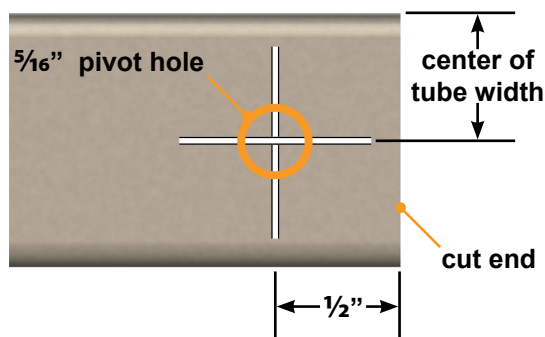

Fig.4
4. Use a tape measure and a pencil to mark $\frac{1}{2}$ " down from the cut end of the front sport arm (Fig.4). Then measure to the center of the width of the sport arm (Fig.4).